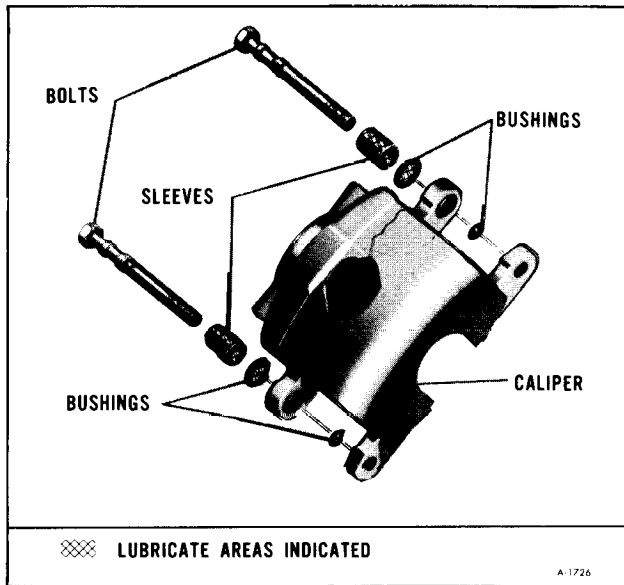

Figure 12—Caliper Sleeve and Bushing Location
6. Remove the rubber bushing from the grooves in each of the four caliper ears (figure 12).